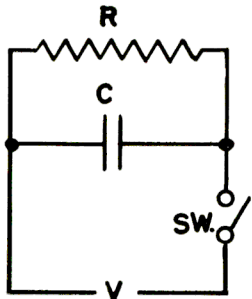
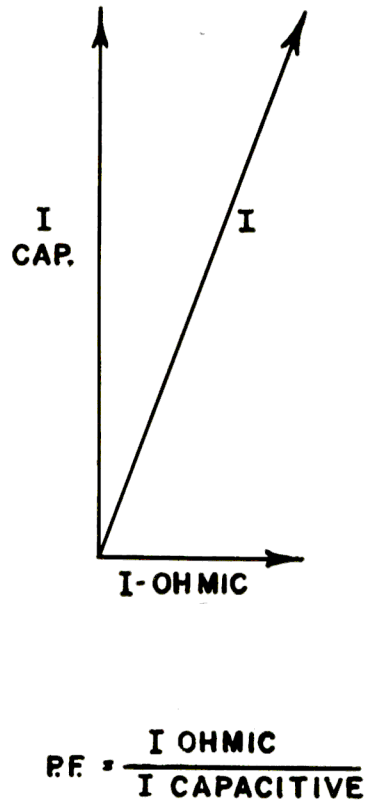

Figure 1
Figure 2
Liquid and solid materials are broadly divided into classes according to their ability to conduct electricity. To be specific, when we measure the resistance of a number of liquid and solid materials between two metal plates each 1 inch square and separated by 1 inch (see Figure 1), we find most metals and acids are relatively good conductors of electricity while mineral oil, glass, wood, rubber and plastics are relatively poor conductors. The resistance of a sample having the aforementioned dimensions is called *resistivity* and is measured by a special unit called ohm-inches.
Consider next the currents that flow through the block of insulation shown in Figure 1 when voltage V is suddenly applied by closing the switch. If V is a d-c voltage, there is a rush of charging current which gradually decays to some steady value determined by the resistivity of the material and the applied voltage. However, when a-c voltage is applied, although most of the current leads the voltage by 90° ($I_{\text{capacitive}}$), a small but measurable current component is in phase with the voltage (I_{ohmic}). The vector diagram of Figure 2 represents these two currents.
* The "apparent power" or "volt-amperes" drawn by a circuit containing both resistance and reactance (as in Fig. 1) is obtained by multiplying the voltage across the circuit by the total current drawn without regard to their relative phases. Actually, power is consumed in the resistor only; the "power" in the capacitor being simply transferred back and forth between the source and the capacitor. Therefore, we define the power factor as the ratio of the actual power consumed by the resistor (which appears as heat) to the apparent power drawn by both resistor and capacitor.
Suppose we measure the capacity of the condenser of Figure 1 first with a solid insulation between the plates and then with just air between the plates. The capacitance obtained with the solid insulation divided by the capacitance obtained with air insulation gives us the dielectric constant. In this way, the K of air is always 1. The K of the so-called "high-K" materials like barium titanate may have a value of more than 1000 (see Table I).